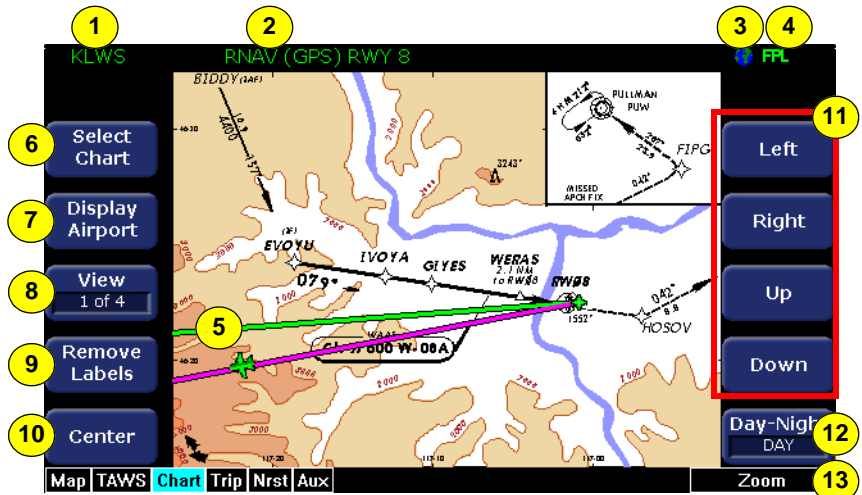

Figure 6.1 CMax Procedure Chart (2-Knob)
- **2-Knob EX500** - Use the keys on the right-hand side of the display labeled Up, Down, Left, and Right to manually move the chart on the screen (as shown in Figure 6.1).
- 12) Day/Night key** - Toggles the chart display mode between the Day and Night modes. The Day display is black text on a white background, while the Night display is white text on a black background. Other colors such as water or shaded terrain are also adjusted between Day and Night modes. The EX500/EX600 starts up with a default to Night mode. In a 2-knob EX500, the Day/Night key is on the bottom right corner (shown in Figure 6.1).